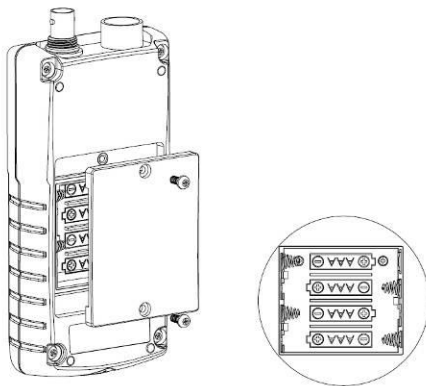

Figure 1
1. Use a screw driver to remove the two screw and battery cover to expose the battery compartment. (Figure 1)